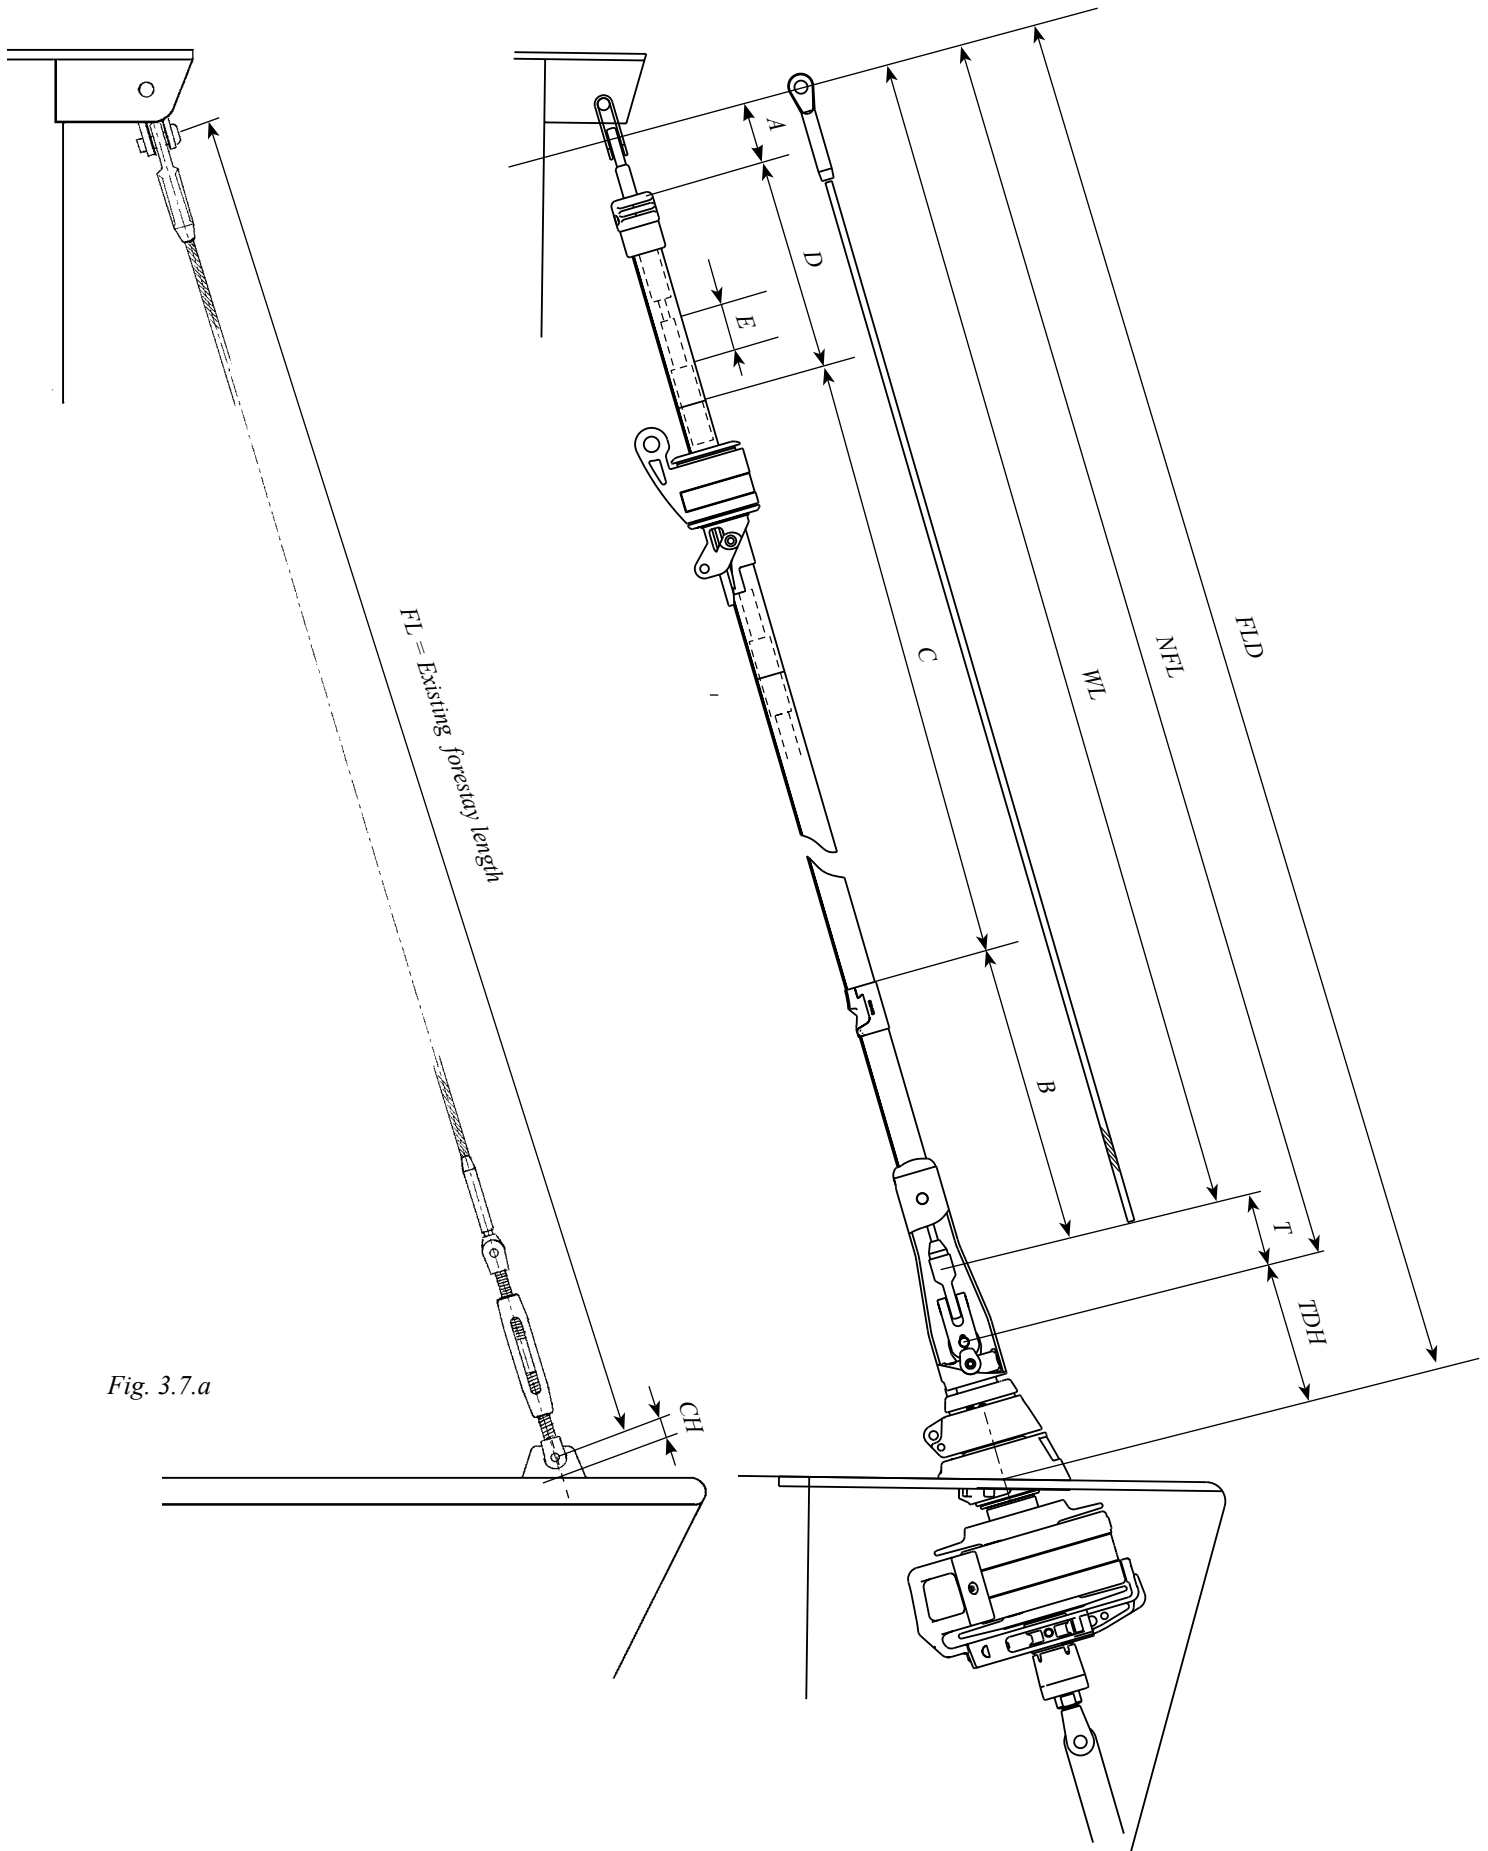

Fig. 3.7.a
5. Remove the forestay. Measure the distance between deck level and the chainplate pin hole (see fig. 3.7.a) and enter the figure in table 3.6.1.
7. Mark the intersection point on the underside of the deck by drawing a line along the longitudinal centreline of the boat and using earlier marking as per item 3.